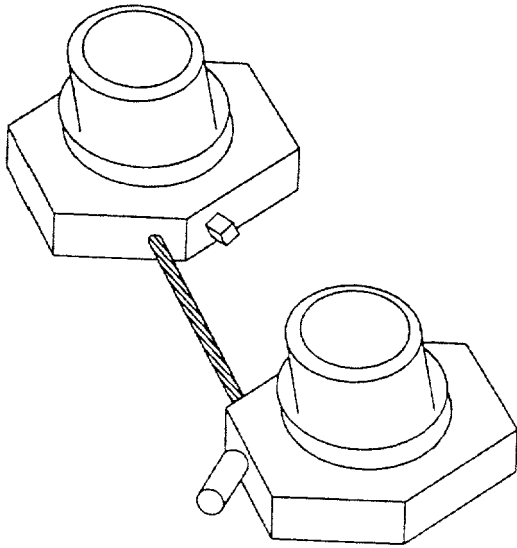
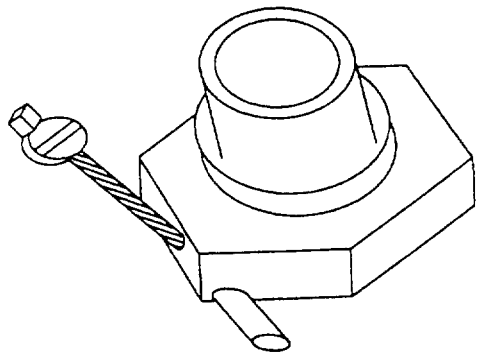
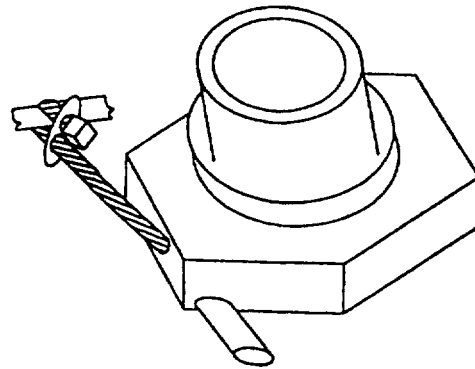

Figure 15. Multiple Jam Nut Receptacle Safety Cable Installation.
Figure 16. Single Jam Nut Receptacle Safety Cable Installation
Figure 17. Single Jam Nut Receptacle Self-Looping Safety Cable Installation
38. **JAM NUT RECEPTACLE.** Select the appropriate diameter safety cable using the guidelines in this manual. When installing safety cable on adjacent jam nut receptacles use the method shown in Figure 15. When installing safety cable on a single jam nut receptacle, safety cable may be installed from a fastener as shown in Figure 16, or it may require the use of a self looping safety cable as shown Figure 17.